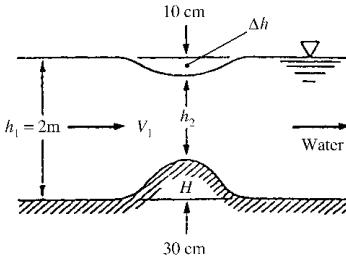

Fig. P3.175
**3.175** If the approach velocity is not too high, a hump in the bottom of a water channel causes a dip  $\Delta h$  in the water level, which can serve as a flow measurement. If, as shown in Fig. P3.175,  $\Delta h = 10 \text{ cm}$  when the bump is 30 cm high, what is the volume flow  $Q_1$  per unit width, assuming no losses? In general, is  $\Delta h$  proportional to  $Q_1$ ?